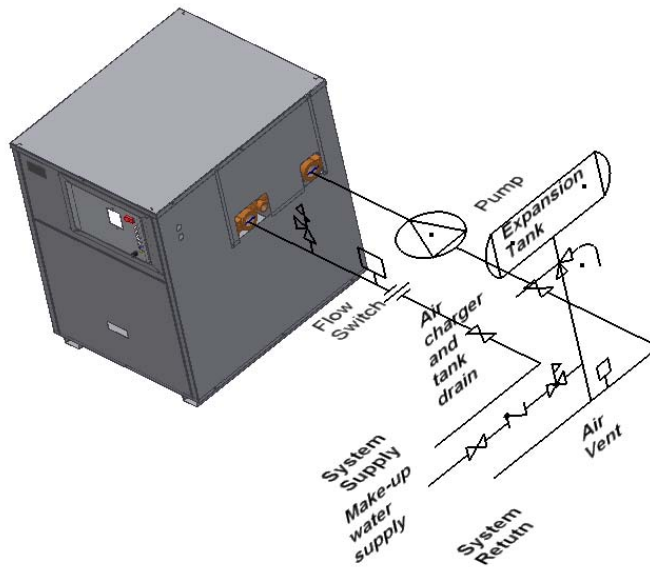

Figure 4
10. PIPING OF SYSTEM TO BOILER (FIG.4)